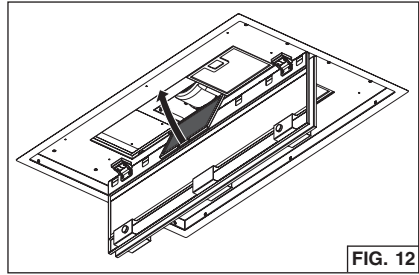

FIG. 12
2. To install the grease filters, align rear filter tabs with slots in the hood. Push latch tab in, push filter into position and release. Make sure filter is securely engaged after installation. Fig. 12.